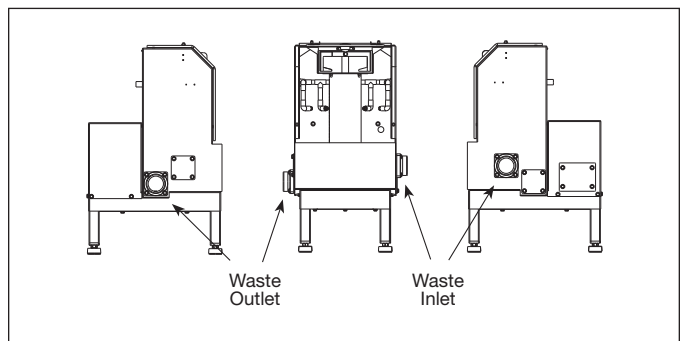

Figure 18.
- A. Remove four screws holding inlet fitting and gasket in position (see Figure 18).
- B. Remove four screws holding the cap and gasket in position (see Figure 18).
Connect a 2" drain line to the Waste Xpress waste outlet as specified per local codes (see Figure 18 for water outlet location).
- Remove the four screws holding the cap and gasket in position (see Figure 18).